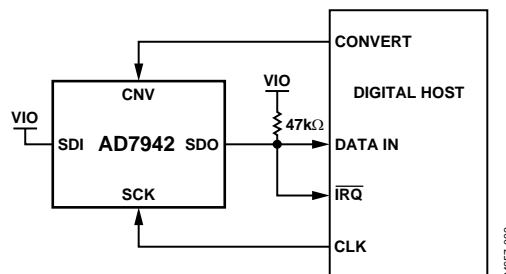
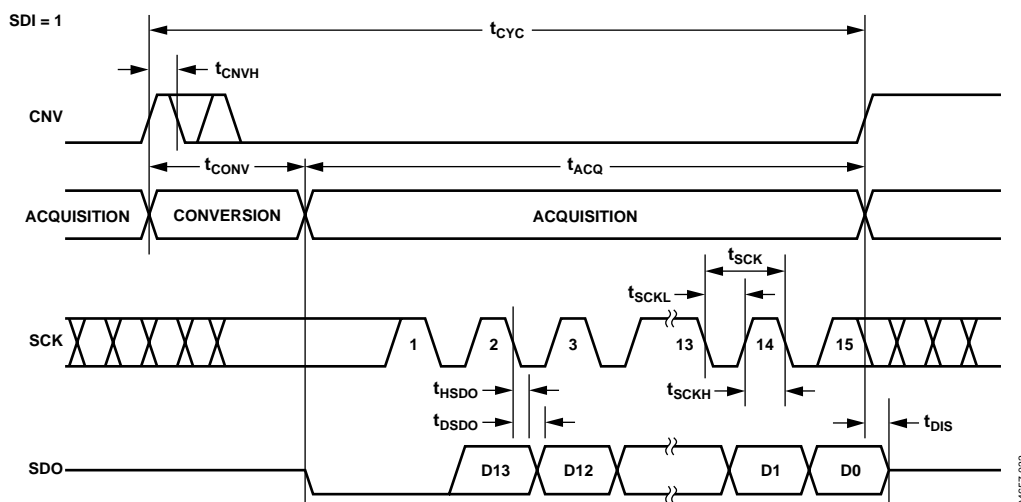
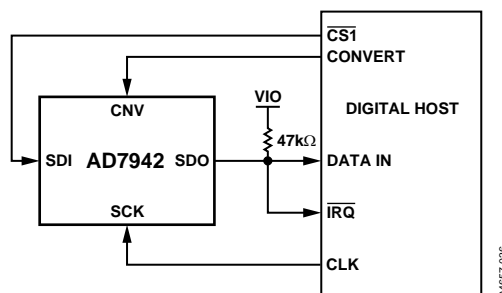
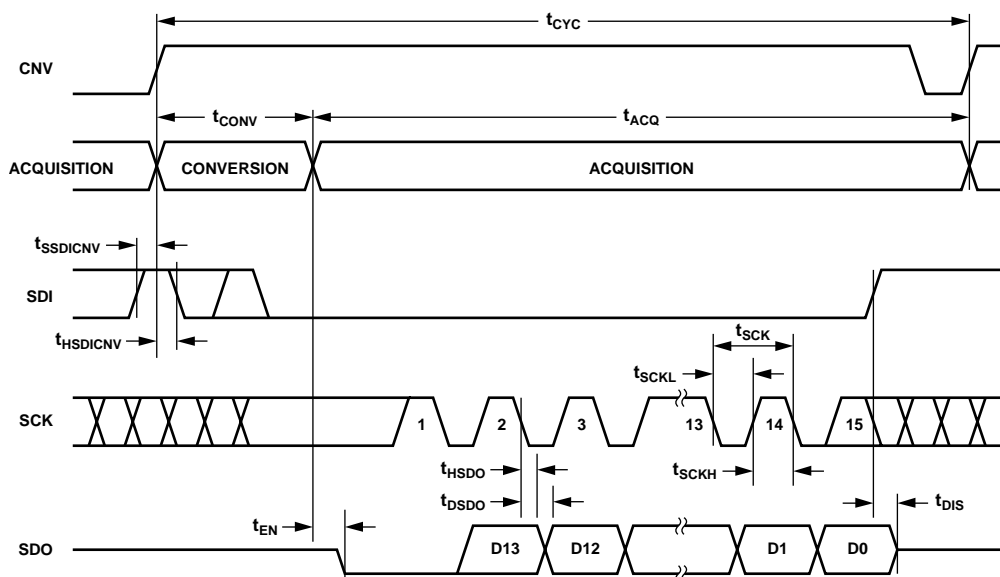

Figure 32. $\overline{\text{CS}}$ Mode 3-Wire with Busy Indicator Connection Diagram (SDI High)
Figure 33. $\overline{\text{CS}}$ Mode 3-Wire with Busy Indicator, Serial Interface Timing (SDI High)
Figure 36. \overline{CS} Mode 4-Wire with Busy Indicator Connection Diagram
Figure 37. \overline{CS} Mode 4-Wire with Busy Indicator, Serial Interface Timing
- In the \overline{CS} mode, if CNV or SDI is low when the ADC conversion ends (see Figure 33 and Figure 37).
This mode is usually used when a single AD7942 is connected to an SPI-compatible digital host with an interrupt input. The connection diagram is shown in Figure 32 and the corresponding timing is shown in Figure 33.
This mode is usually used when a single AD7942 is connected to an SPI-compatible digital host with an interrupt input and it is desired to keep CNV (which is used to sample the analog input) independent of the signal used to select the data reading. This requirement is particularly important in applications where low jitter on CNV is desired. The connection diagram is shown in Figure 36 and the corresponding timing is given in Figure 37.